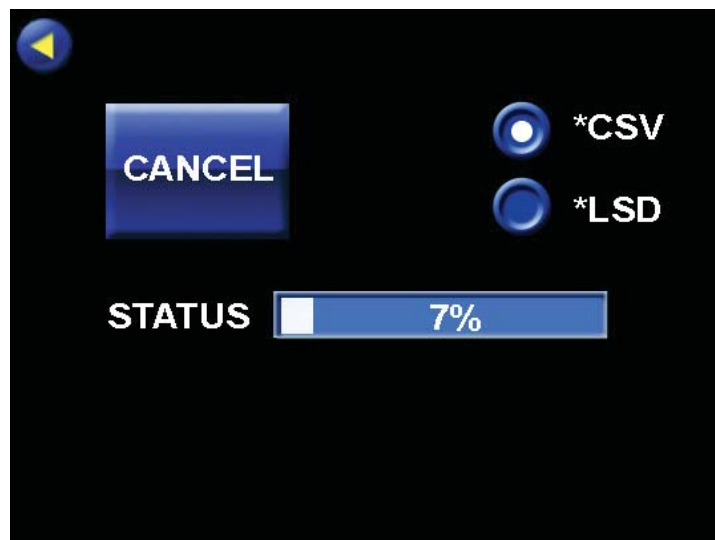

Figure 5-12 Downloading Data
- Select the **Output Data** button to download the data. See Figure 5-12.